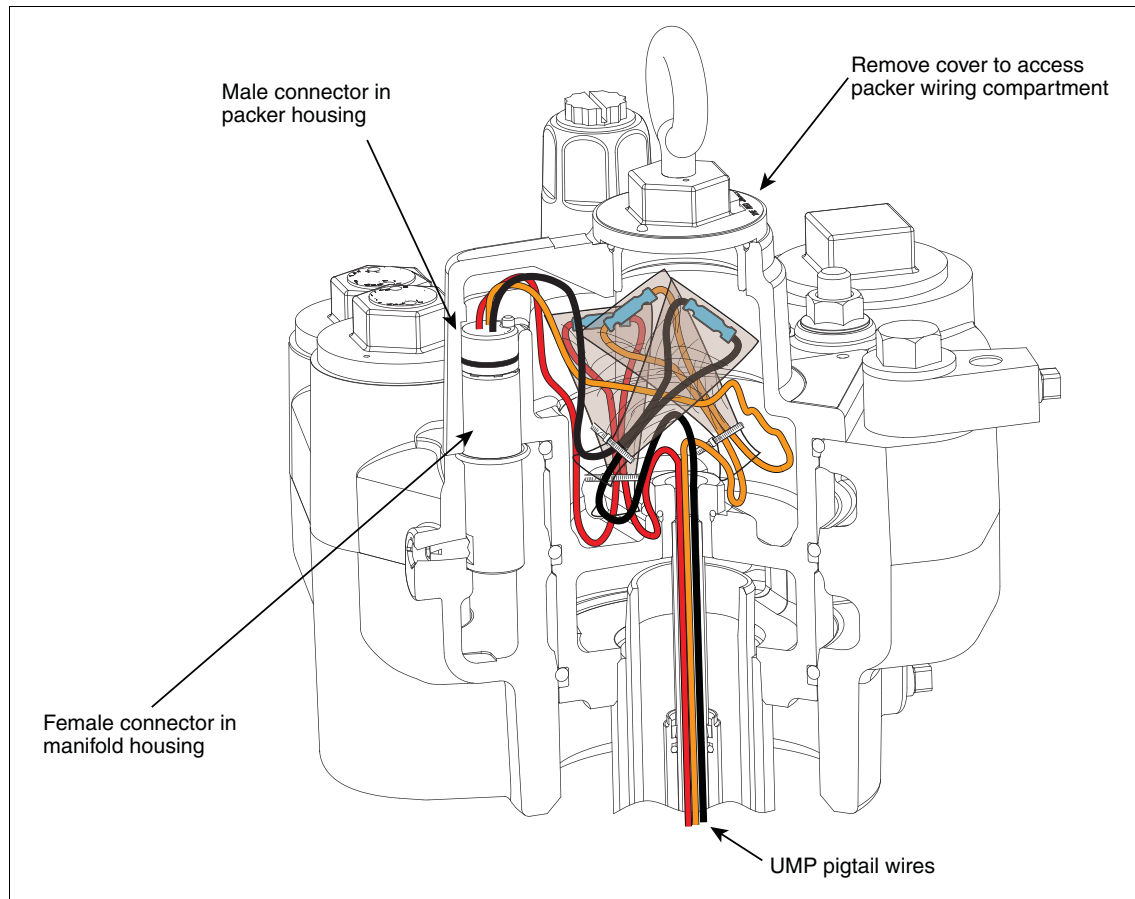

Figure 13. Connecting UMP To Packer Wiring
16. When finished sealing the wires, coil the wires inside the packer's wiring compartment as neatly as possible (see Figure 13). For clarity, the epoxy packs are shown transparent.